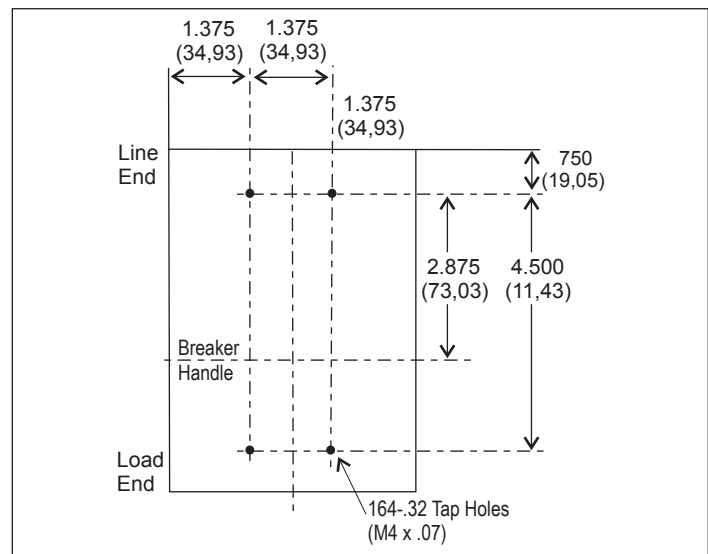
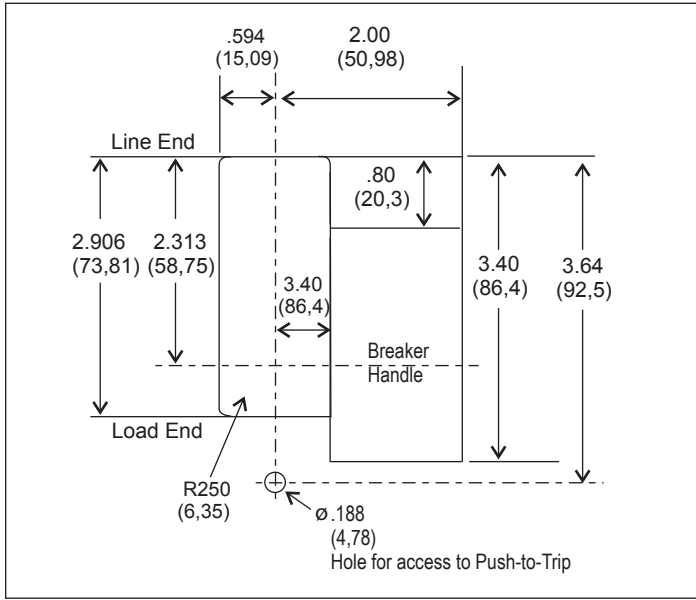

Figure 2. Breaker Mounting Bolt Drilling Plan.
Figure 3. Breaker Escutcheon Dimensions.
1. For individual mounting panels, make sure the mounting panel is predrilled using bolt drilling plan (Figure 2). For panel board mounting, only load end support mounting holes are required. For deadfront cover application, make sure panel cover is cut out to correct escutcheon dimensions (Figure 3).